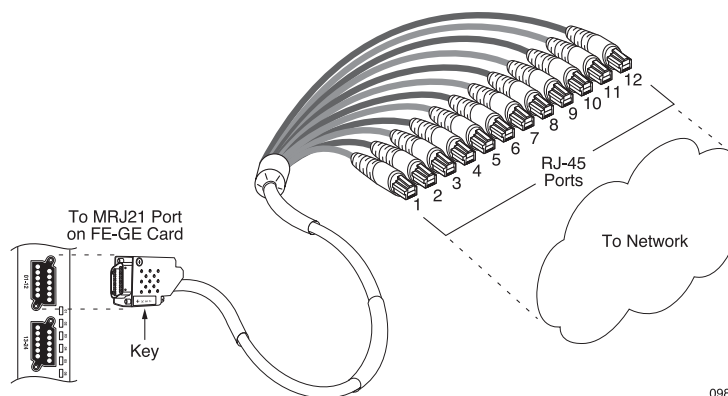

Figure 21 Connecting an FE-GE Breakout Cable
- b Attach the breakout cable to the right-most connector to be cabled on an FE–GE line card. Position the connector so that the incised label “KEY” on the connector is on the bottom side of the connector as you face the chassis; see Figure 21.